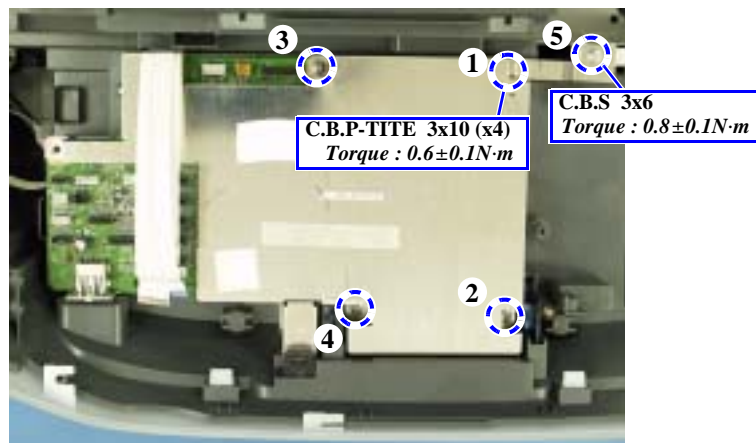
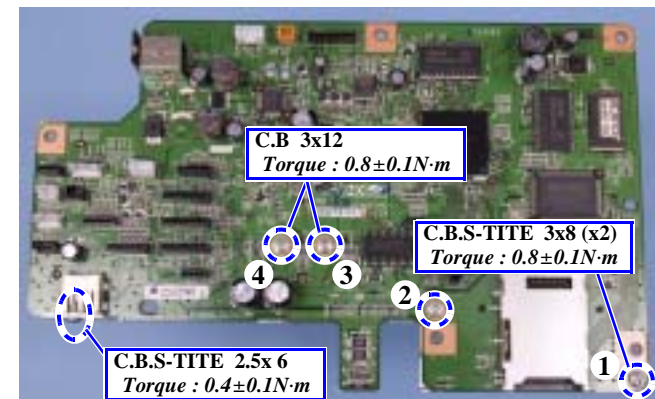

Figure 4-11. Removing the Main Board Assy
Figure 4-13. Removing the Main Board
4. Remove the screws (x5), and remove the Main Board Assy by lifting its rear side. (Fig. 4-11)
7. Remove the screws (x5), and remove the Main Board. (Fig. 4-13)
- Tighten the screws in the order specified to secure the Main Board and Main Board Assy. (Fig. 4-13, Fig. 4-11)